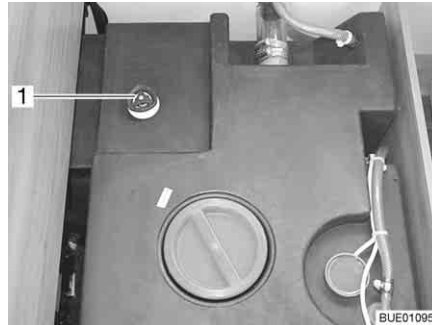

Fig. 196 Water tank with handle
- Turn the handle (Fig. 196,1) on the water tank in a clockwise direction as far as it will go.
- Turn the handle (Fig. 196,1) on the water tank in an anticlockwise direction as far as it will go. Excess water will drain away leaving 60 litres in the tank.